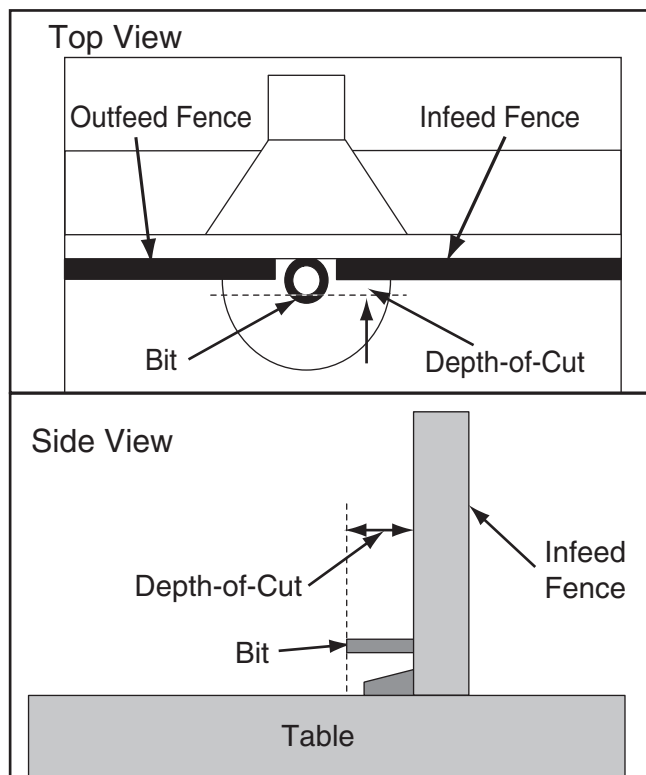

Figure 53. Groove cutting setup.
3. Raise router bit to desired height, then adjust fence so it sits behind the bit the same distance as desired depth-of-cut (see **Figure 53**).